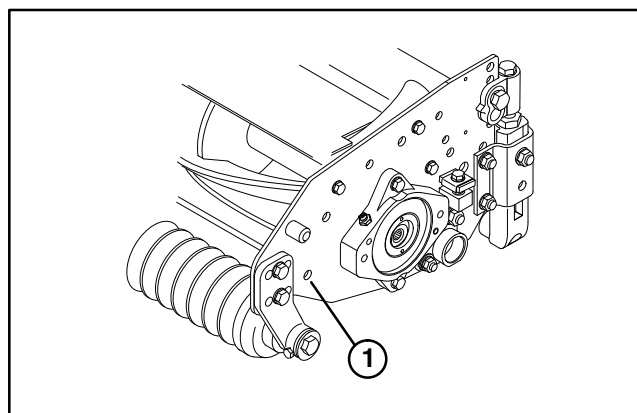

Figure 4
5. Locate un-used hole, behind front roller brackets, in each cutting unit side plate (Fig. 4).